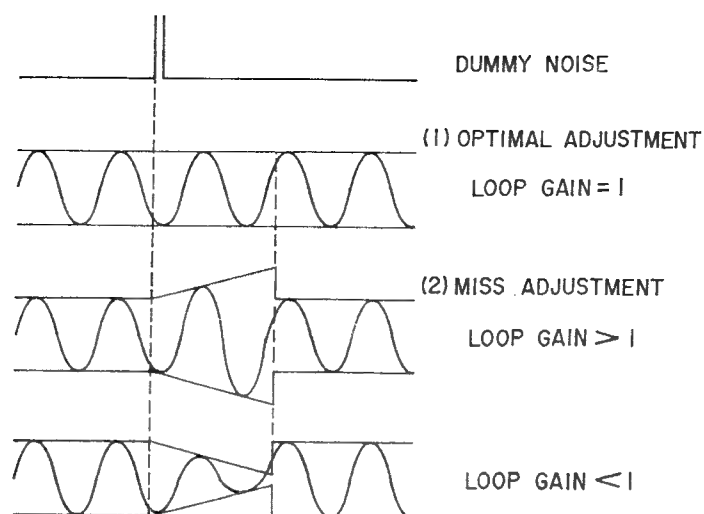

Fig. 20 Pilot signal generating circuit adjustment and pin wave form (non-modulated stereo signal)
(Refer to Figs. 20, 21 and 23)
To compensate the pilot signal, the 19 kHz sine wave amplitude must be equal to the amplitude before the gate is opened. To do this, set the loop gain of the pilot signal generating circuit to 1 with the adjustment volume as in Fig. 20 (1).